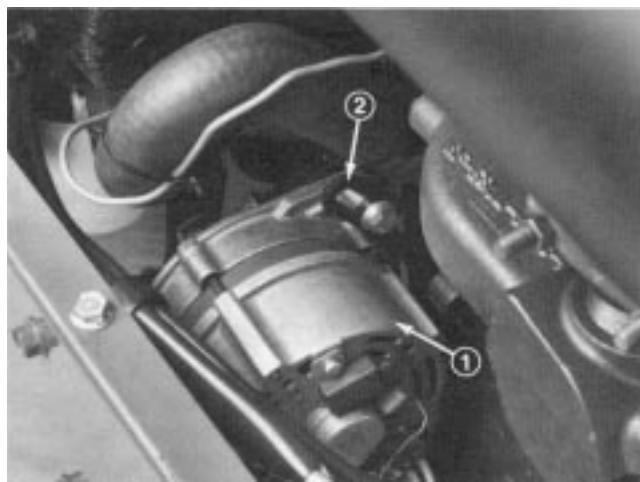

Figure 36
A new alternator belt (Fig. 36) is to be tensioned to 65 lbs. A used belt is to be tensioned to 40 lbs.
1. To adjust belt tension, loosen bolt securing brace to engine, bolt securing alternator to brace and alternator mounting bolt (Fig. 36).
2. Insert pry bar between alternator and engine and pry out on alternator (Fig. 36).
A new cooling fan belt (Fig. 36) is to be tensioned to 65 lbs. A used belt is to be tensioned to 40 lbs.